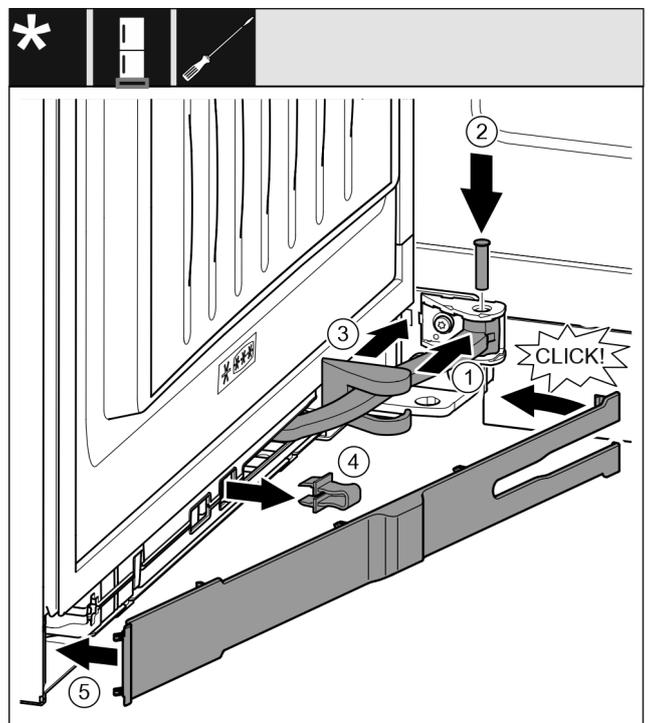

Fig. 69
- ▶ Turn the joint Fig. 69 (1) in the attachment.
- ▶ Use a screwdriver to insert the bolt Fig. 69 (2) into the attachment and the joint. Ensure that the latching cam is in the groove properly.
- ▶ Push the swap bearing block cover Fig. 69 (3) along the joint and use the attachment to fit it.
- ▶ Remove the safeguard Fig. 69 (4).
- ▶ Place the trim Fig. 69 (5) on the handle side and swing in.